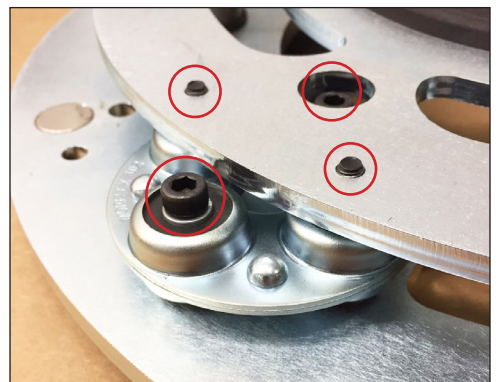

FIG. 7
2. Remove the (4) retaining screws (two on each side of the coupler). See Figure 7.